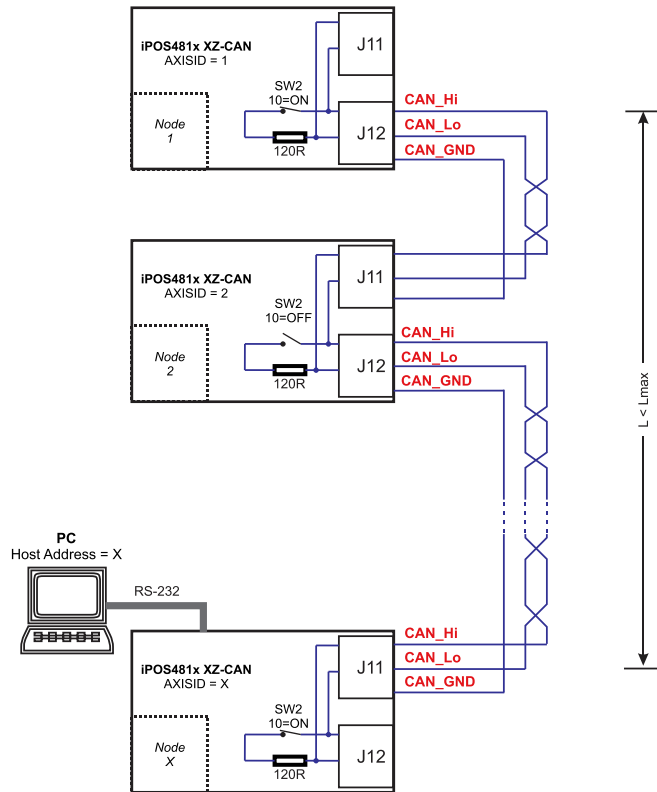

Figure 3.27. Multiple-Axis CAN network
1. The CAN network requires a 120-Ohm terminator. This is not included on the board. Figure 3.27 shows how to connect it on your network